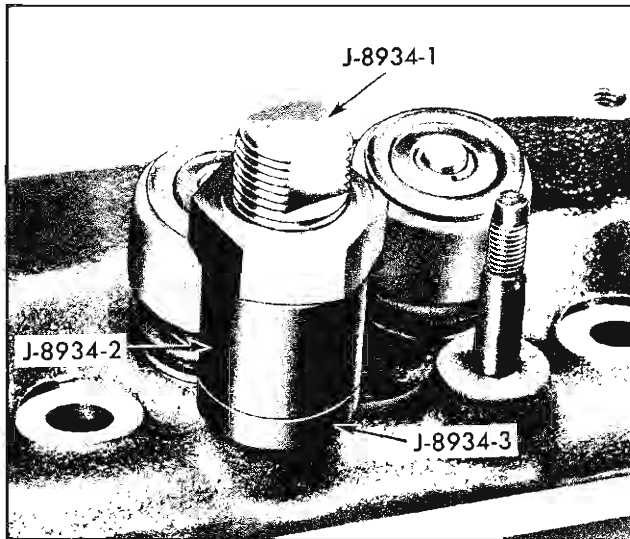

Fig. 6-28 Tools Positioned to Remove Rocker Arm Stud
6. Thread  $\frac{7}{8}$ " standard nut on stud remover and turn nut until rocker arm stud is out of cylinder head (Fig. 6-28).